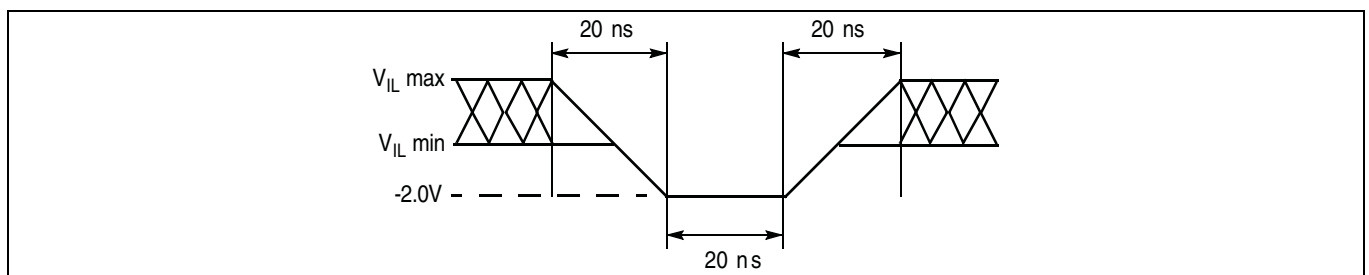
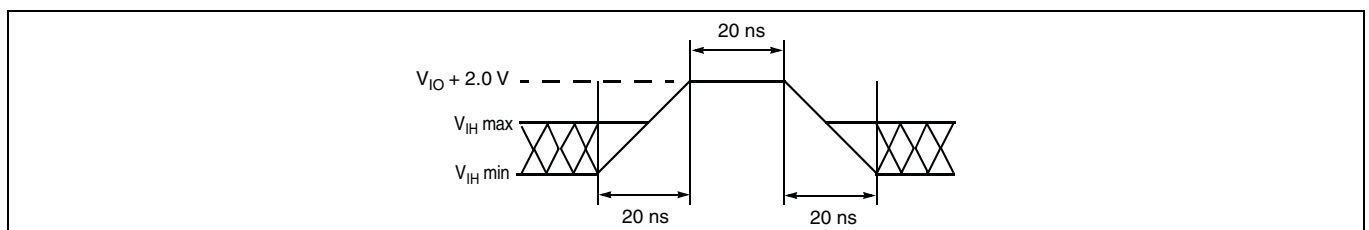

Figure 11 Maximum negative overshoot waveform
Figure 12 Maximum positive overshoot waveform
98. Minimum DC voltage on input or I/O pins is -0.5 V. During voltage transitions, input or I/O pins may undershoot V_{SS} to -2.0 V for periods of up to 20 ns. See Figure 11. Maximum DC voltage on input or I/O pins is V_{CC} + 0.5 V. During voltage transitions, input or I/O pins may overshoot to V_{CC} + 2.0 V for periods up to 20 ns. See Figure 12.